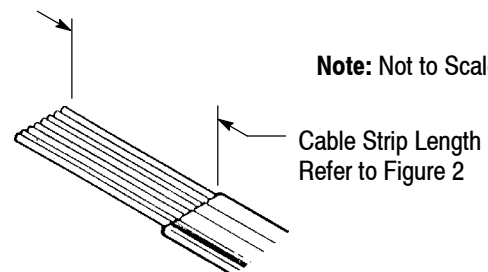

Figure 3
1. Refer to Figure 3 and insert cable squarely into CUT slot in tool cable cutter. Squeeze handles until ratchet releases.